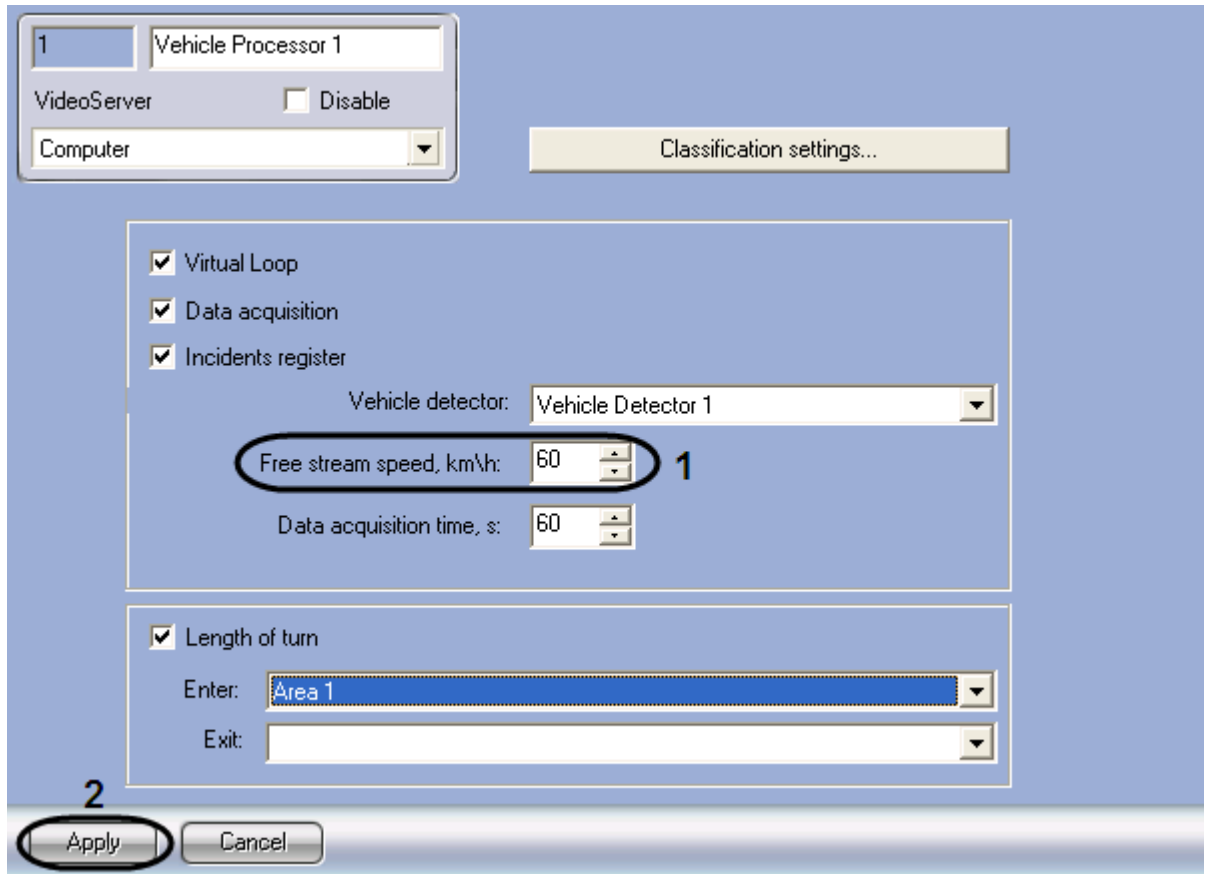

Fig. 7.6-11 Setting up the free stream speed
1. Go to the Vehicle processor settings panel (Fig. 7.6-11)
2. In the field with a list Free stream speed enter the speed in km/h of a free stream speed in the detection zone (Fig. 7.6-11, 1)
3. Click Apply to save the changes (Fig. 7.6-11, 2)